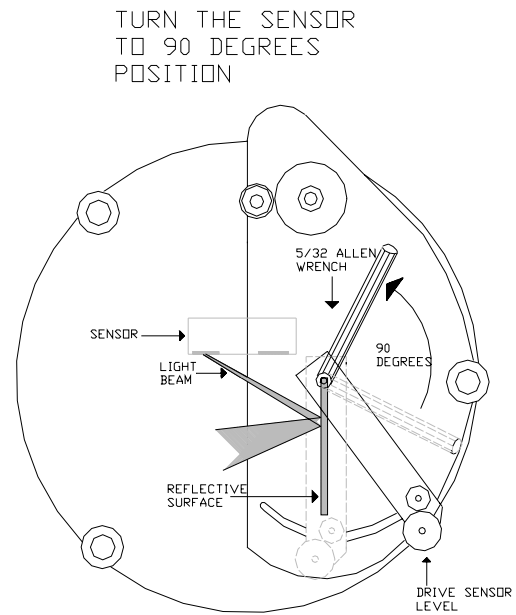

FIGURE 4
3. Turn back the pivot screw in the counter clockwise direction exactly 90 degrees with the help of a protractor or some square device as shown in the figure 4.